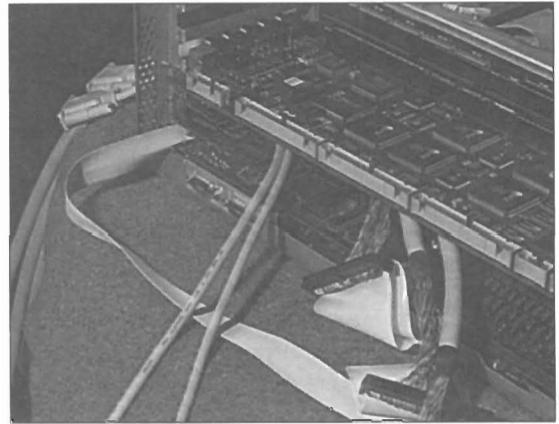

Figure 7.
- 5 Hold the Flyer's mounting bracket over its connectors and insert the Flyer card into the Amiga. Secure the mounting bracket with one of the screws from the slot covers removed earlier. Make sure you have access to the 5 internal cables from the cable assembly so you can hook them up. See Figure 7.